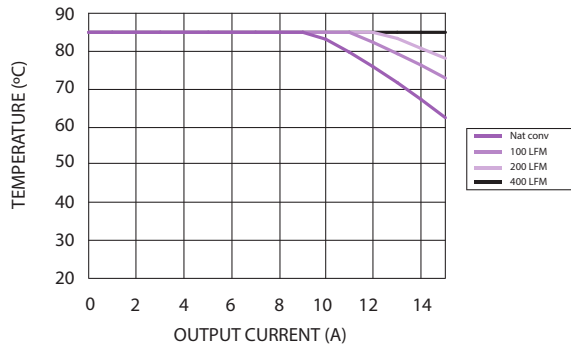

Figure 1 - Safe Operating Area
- See Figures 1 & 2 for safe operating curves.